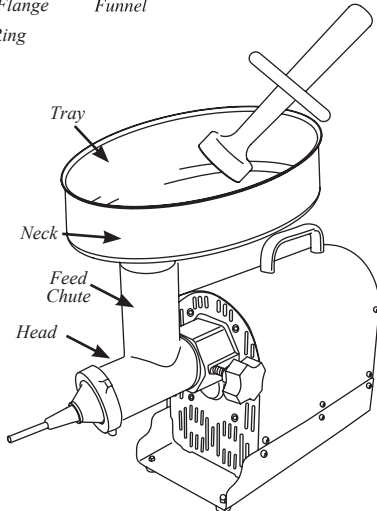

FIGURE 10
7. Insert the neck of the Tray into the Feed Chute (**FIGURE 10**).
8. NEVER operate Grinder without the Tray secured in place (**FIGURE 10**).